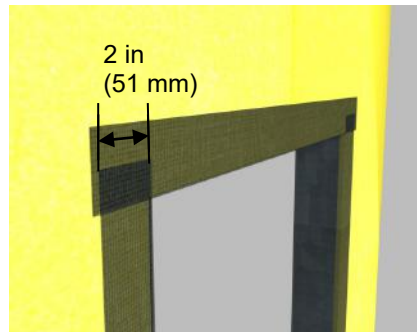

Figure 4
- 5) Install the AquaFlash System at the head overlapping the jamb pieces a minimum of 2 in (51 mm) – Figure 4.